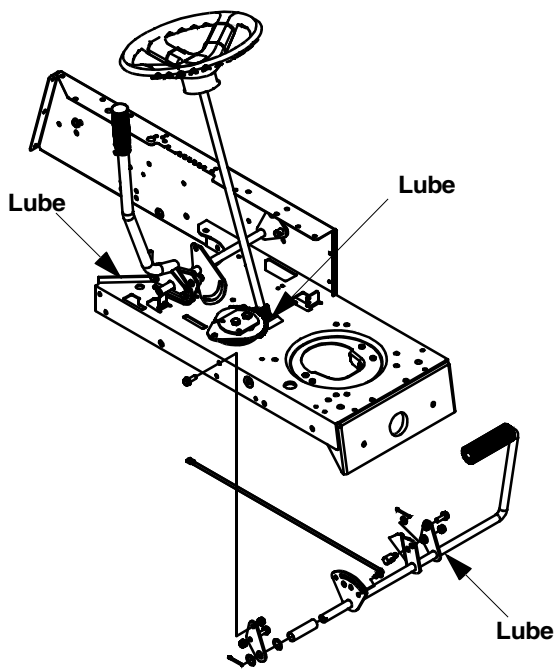

Figure 17
- Lubricate teeth of steering gears with automotive multi-purpose grease after every 25 hours of operation or once a season. See Figure 17 .
- Lubricate steering shaft at least once a season with light oil. See Figure 17 .
- Once a season lubricate all the pivot points on the clutch, brake and lift linkage with SAE 30 engine oil. See Figure 17 .